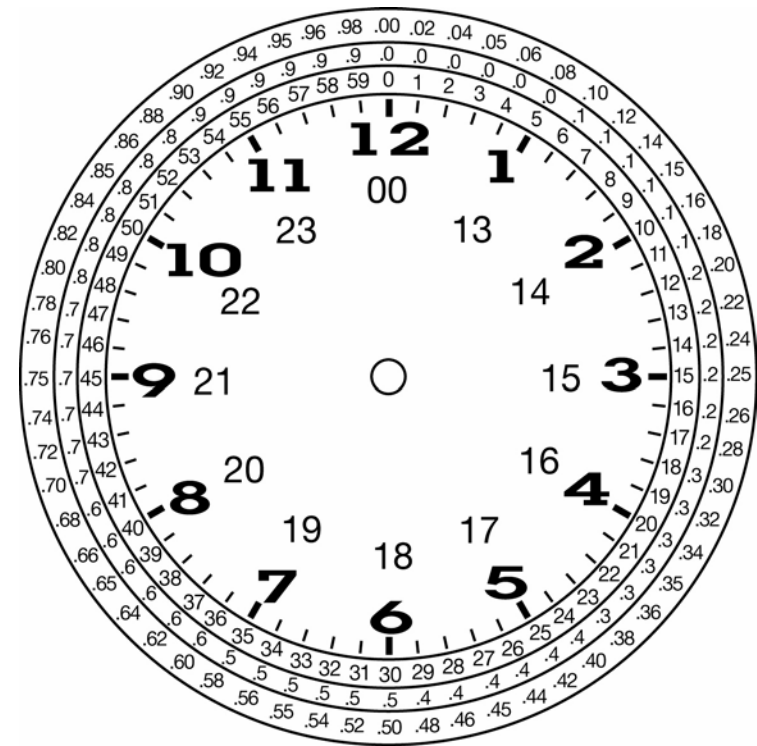

Figure 3
If your model prints Hundredths or 00-23 hours, refer to the **Dial of Decimal Equivalents in Figure 3** (page 5) to determine the correct setting.
The dial in Figure 3 shows the tenths and hundredths setting for each minute. The inner circle represents regular minutes, the middle circle represents tenths, and the outer circle represents hundredths of a minutes.
3. To synchronize the display with the type wheels, listen for the type wheels to click. At the click, press the minute button to advance to the next minute. Seconds are now synchronized. Always set the display to regular minutes. Refer to **Figure 3**, "dial of decimal equivalent" if wheels print in hundredths or tenths.